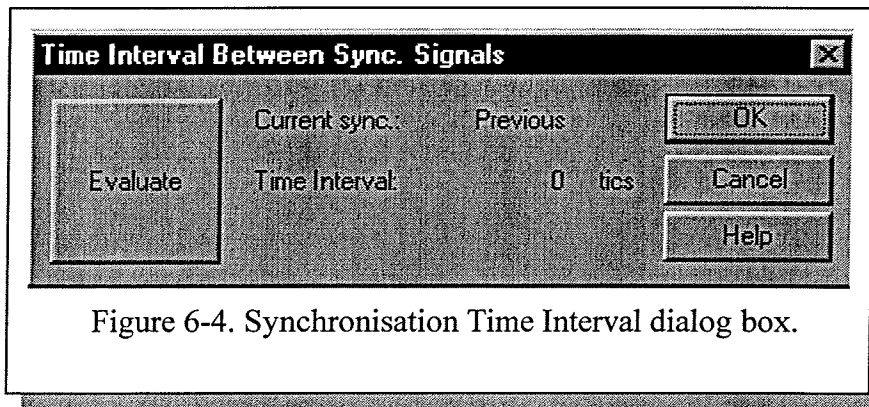

Figure 6-4. Synchronisation Time Interval dialog box.
6.2.2.6.3.1 Synchronisation Time Interval (Figure 6-4.)